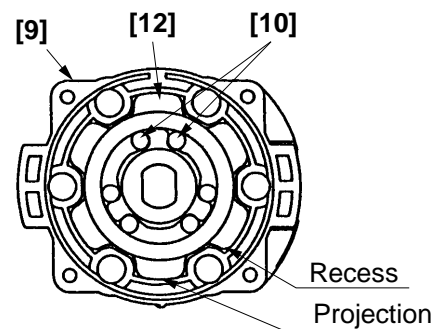

Fig. 11
(b) Install the six Needle Rollers (C). (See Fig. 11)